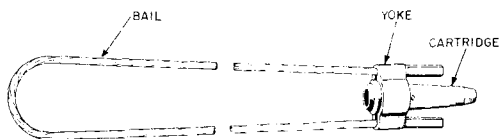

Fig. 16—False Deadend Strandwise
4.01 The false deadend strandwise consists of a cartridge, a yoke, and a strand-type bail. Due to its construction, the strandwise cannot be used at locations where the strand is continuous. Figure 16 illustrates a false deadend strandwise.